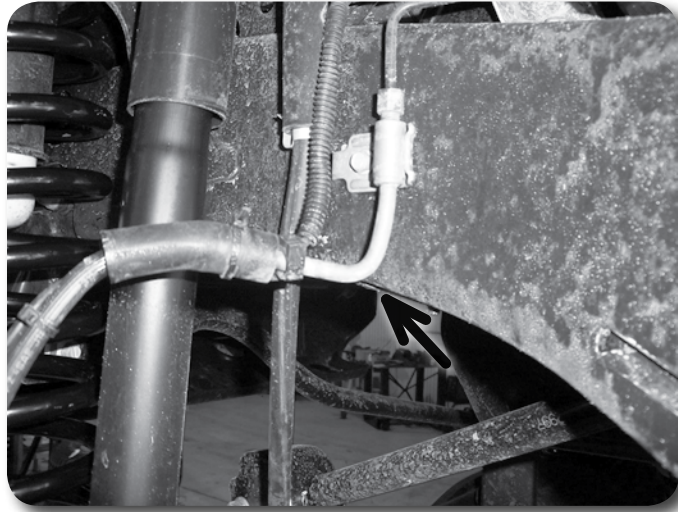

Figure 4A - Before
17. Reconnect the front brake line brackets to the original mounts on the frame rails with the factory bolts. Tighten bolts securely. Check the slack in the brake lines by turning the wheels from lock-to-lock. It may be necessary to slightly reform the brake line hardline at the frame down about 10-15 degrees to provide more slack in the line (Figure 4A/B). Carefully bend the hard line with your hands.